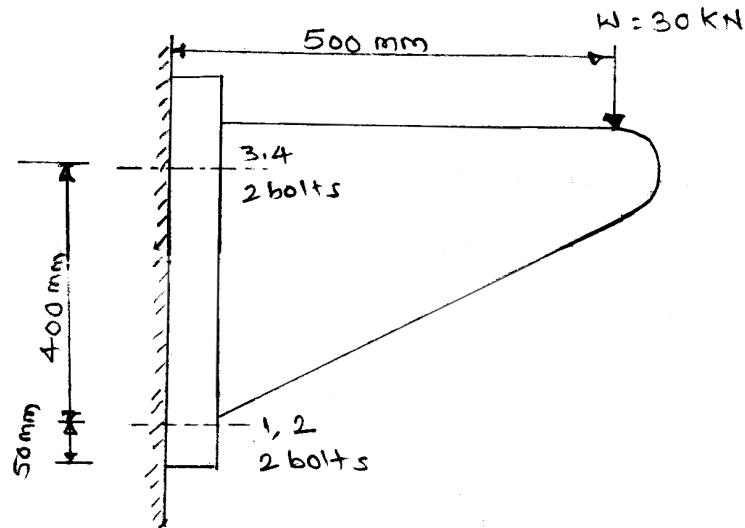

Fig. No. 1
- A bracket as shown in Fig. No. 1 is fixed to the wall by means of four bolts. Find size of bolts if tensile stress as 70N/mm^2 for bolt material.